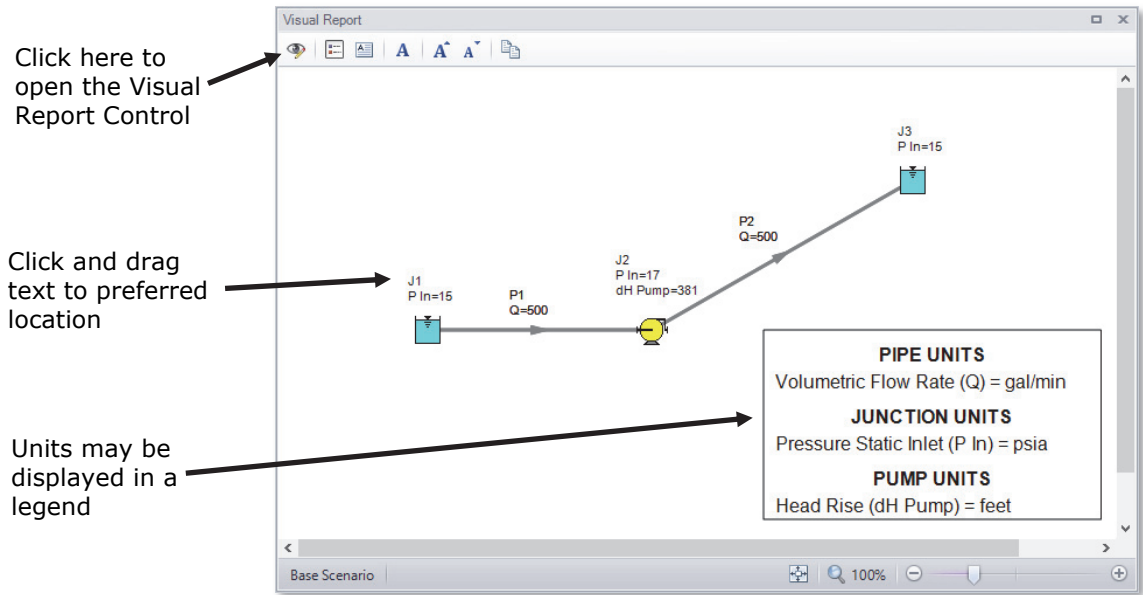

Figure 2.22 The Visual Report integrates results with model layout
- **Select Volumetric Flow Rate in the Pipe Results area, Pressure Static Inlet in the Common Junction Results area, and Head Rise in the Pump Summary Output area. Click the Show button. The Visual Report window graphic is generated similar to that shown in Figure 2.22.**
It is common for the text in the Visual Report window to overlap when first generated. You can change this by selecting smaller fonts or by dragging the text to a new area to increase clarity. You can also use the Visual Report Control window to display units in a legend to increase the clarity of the display. These adjustments have already been done in Figure 2.22. This window can be printed or copied to the clipboard for import into other Windows programs, saved to a file, or printed to an Adobe PDF file.